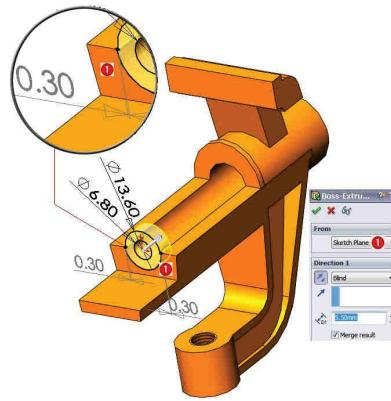

Fig. 2.16
**26 Trasare cercuri  $\phi 13.6 \times \phi 6.8 \times 0.3$ :** Comanda Sketch – Fig. 2.16 – plan ①.
**27 Extrudare cercuri  $\phi 13.6 \times \phi 6.8 \times 0.3$ :** comanda Extruded Boss/Base  - Fig. 2.16 - Blind /  $\text{D}_1$  5.5 mm distanță / .
**26 Sketching of the  $\phi 13.6 \times \phi 6.8 \times 0.3$  contour:** The Sketch command – Fig. 2.16 – plane ①.
**27 Extrudation of the  $\phi 13.6 \times \phi 6.8 \times 0.3$  contour:** the command Extruded Boss/Base  - Fig. 2.16 – Blind /  $\text{D}_1$  5.5 mm distance / .